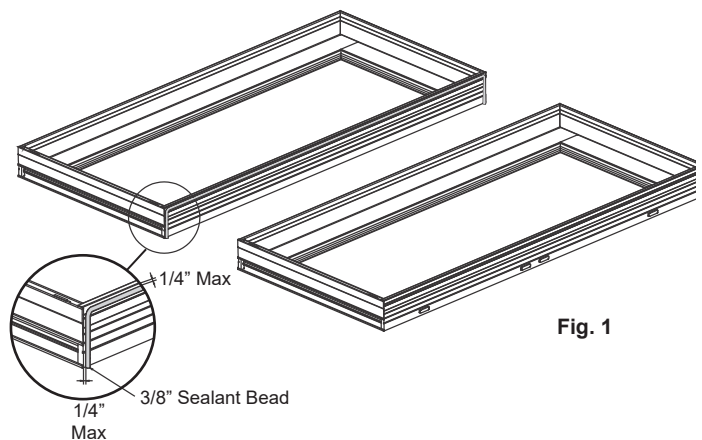

Fig. 1
3. Apply a 3/8" bead of sealant to one of the jambs where the unit will be mulled. The bead must run the width and full length of the unit and be a maximum of 1/4" away from the accessory groove. See Figure 1